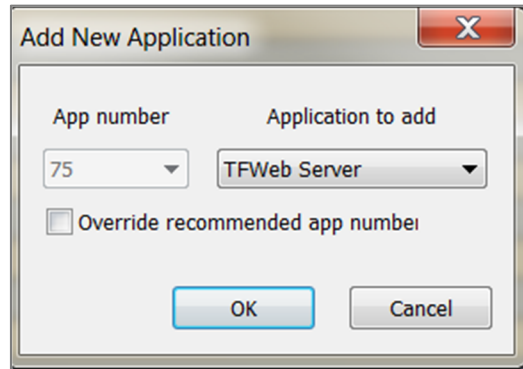

Figure 5: Web application
3. Click the **Application to add** down-arrow to display the drop down list (Figure 5).